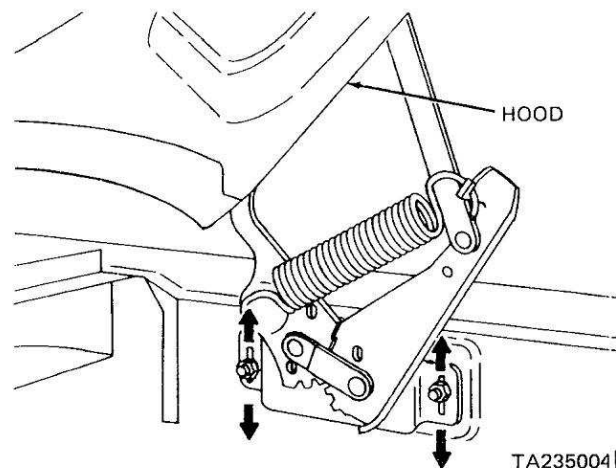

Figure 2-96. Up and Down Adjustment Points.
(2) Use the hinge mounting at the fender panel to provide up and down hood adjustment (figure 2-96).